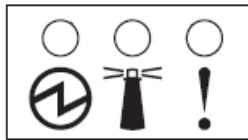

Figure 8-1 System status LEDs: OK, Identify, and Error (left to right)
- System status LEDs (shown in Figure 8-1).